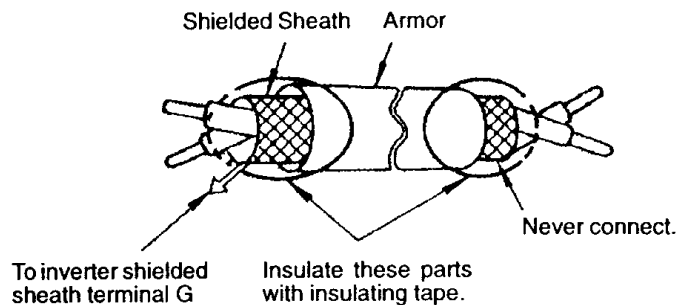

Figure 12 Shielded Wire Termination
- Use twisted shielded or twisted-pair shielded wire for the control circuit line and connect the shielded sheath to the Inverter Terminal G. See Figure 12.